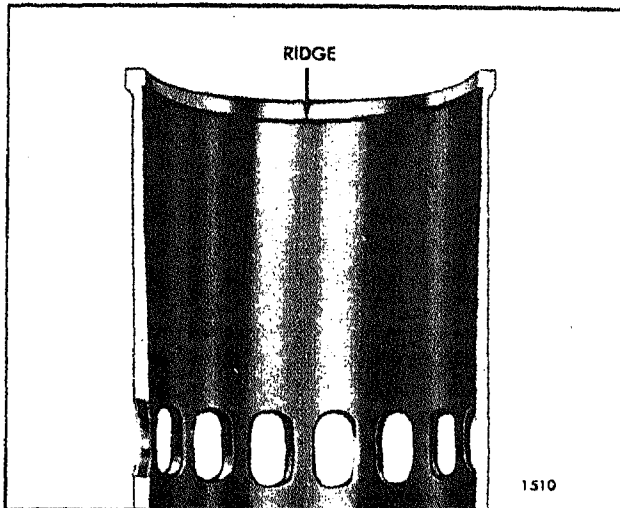

Fig. 6 - Cylinder Liner Ridge Due to Wear
2. To remove the ridge (Fig. 6) formed at the top by the piston ring travel.